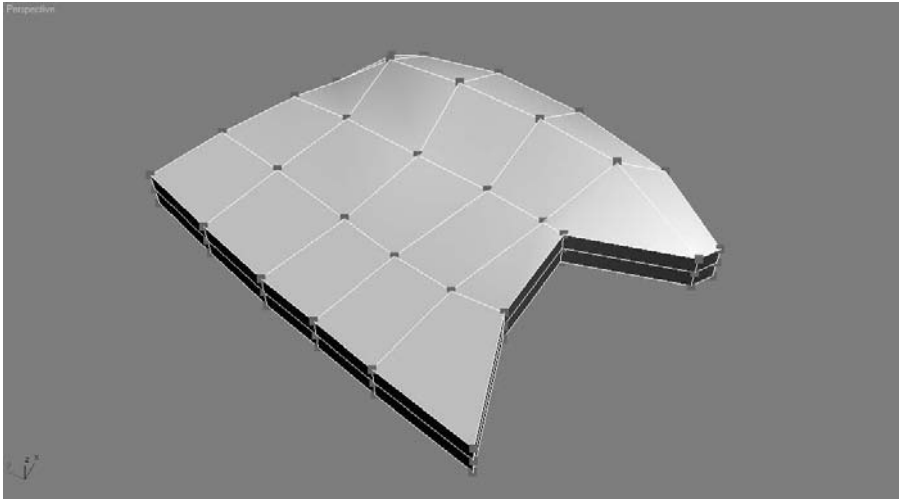

Figure 5.65
8. With Normal in the Constrain Group still turned on, move this set of vertices along the X-axis as you did in the previous step to increase the bulbous end of the fin, as shown in Figure 5.65. Move that row of vertices in the X-axis a little closer to the tip of the fin.